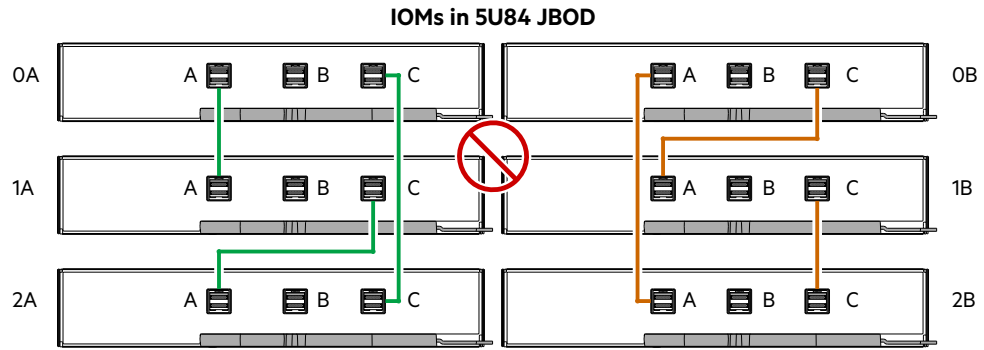

Figure 117 SAJ cabling: invalid configuration–IOM looped to JBOD instead of server
- Figure 117 \(page 145\) shows an IOM incorrectly looped to another JBOD instead of the server HBA